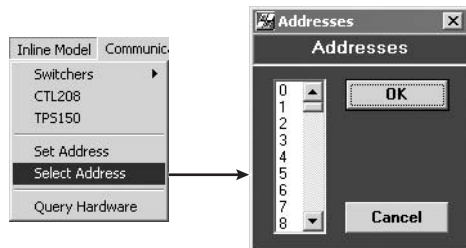

Figure 4-3 — Addresses window
4. Click *Inline Model > Select Address*. The *Addresses* window (figure 4-3) appears.
- If you need to change serial port settings to match the serial communication protocol of the device to be controlled, click *Communications > Comm Port > Comm 1* (or the correct *Comm port*). The Serial Port Setup window appears (figure 4-3).